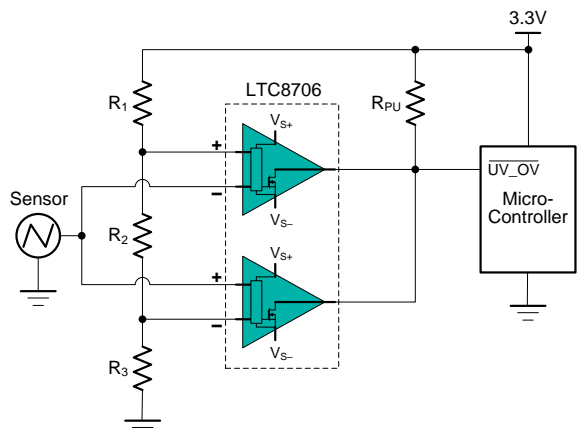

Figure 6. Window Comparator
Window comparators are commonly used to detect undervoltage (UV) and overvoltage (OV) conditions. Figure 6 shows a simple window comparator circuit.
Configure the circuit as shown in Figure 6. Connect  $V_{S+}$  to a 3.3-V power supply and  $V_{S-}$  to ground. Make  $R_1$ ,  $R_2$  and  $R_3$  each 10-MΩ resistors. These three resistors are used to create the positive and negative thresholds for the window comparator ( $V_{TH+}$  and  $V_{TH-}$ ). With each resistor being equal,  $V_{TH+}$  is 2.2V and  $V_{TH-}$